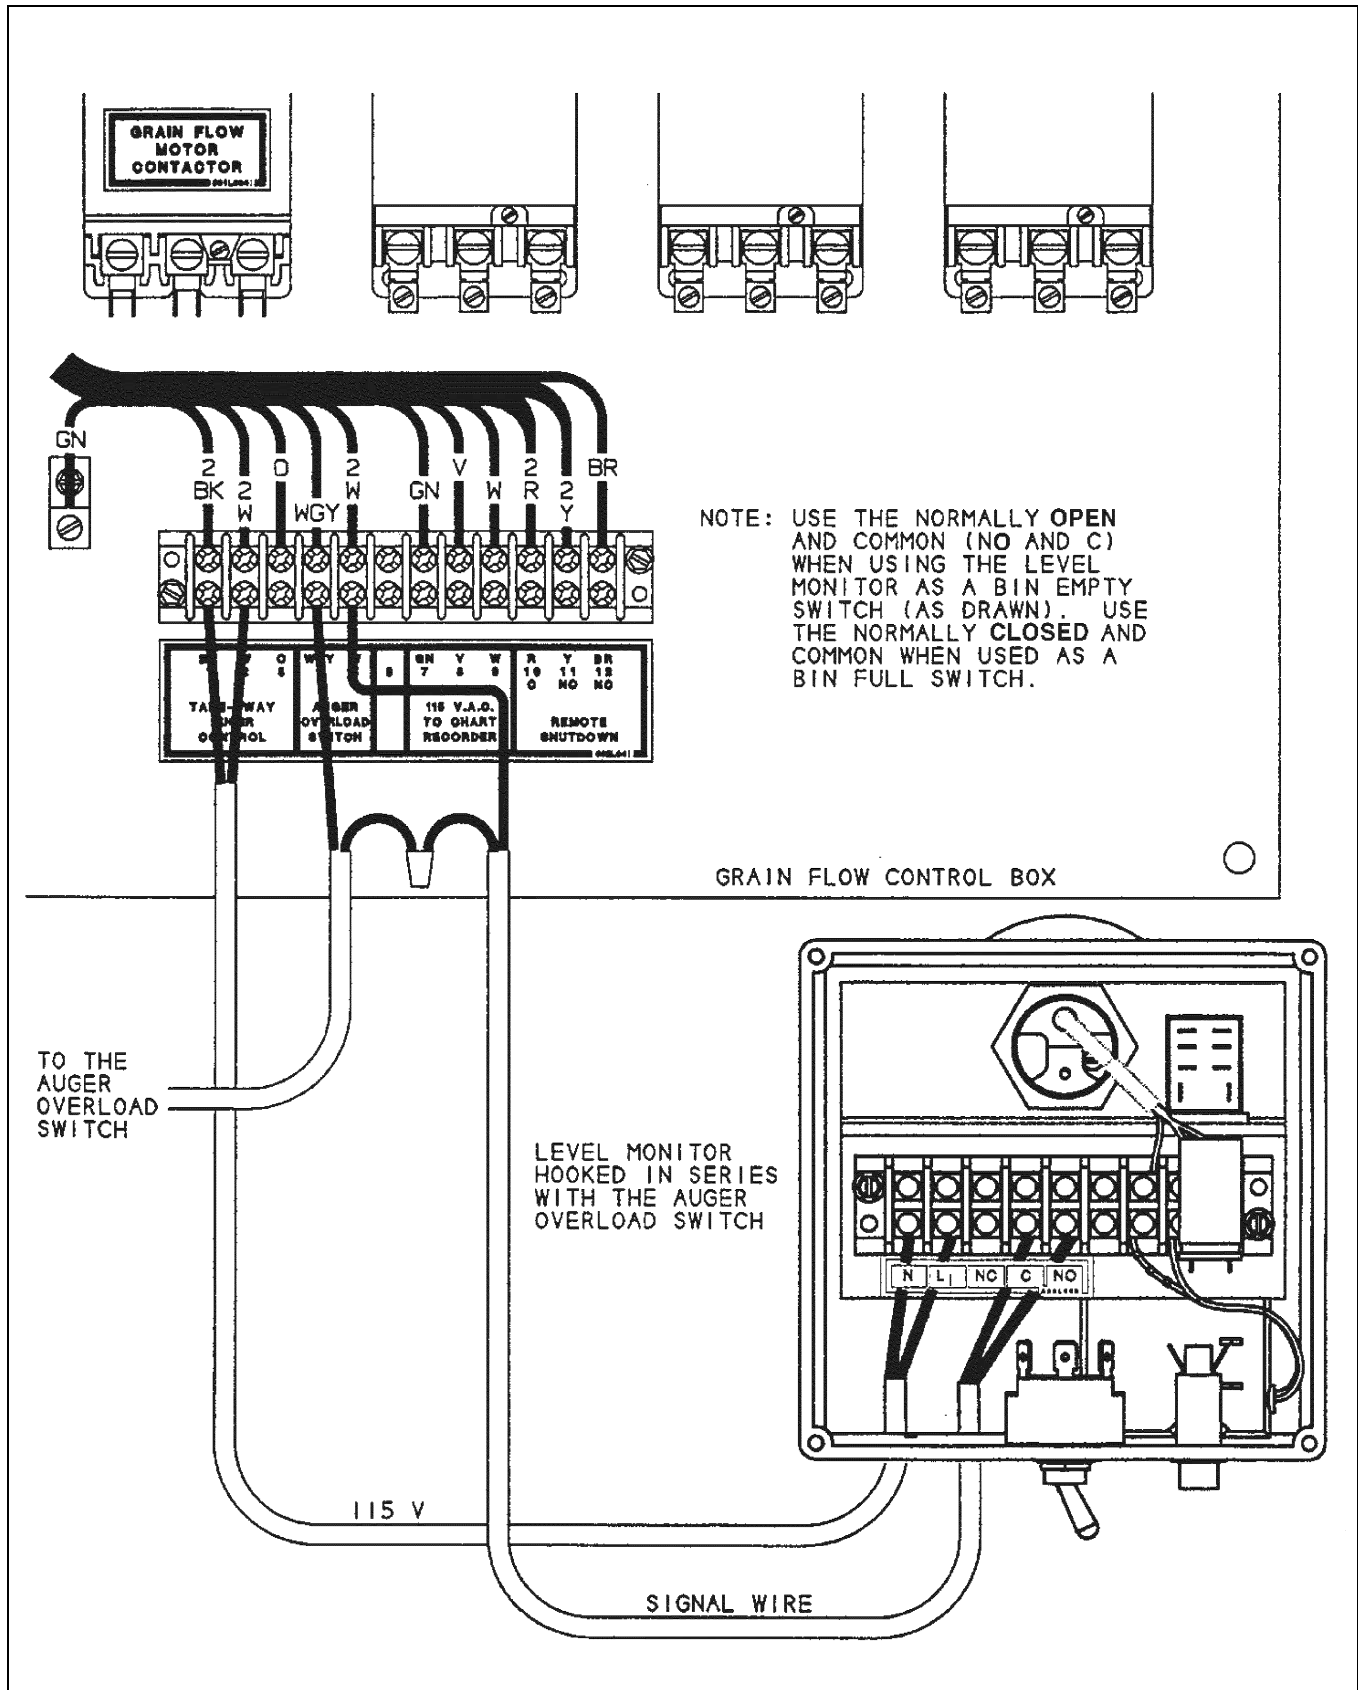

Figure 11C
1. Locate the auger overload switch terminals #4 and #5 on the terminal strip at the bottom of the Grain Flow back panel. Connect the level monitor in series with the auger overload by removing the auger overload wire from terminal #5. Use a wire nut to connect the wire from the auger overload switch to the wire attached to the “NO” terminal in the level monitor. Attach one end of another wire to the “C” terminal in the level monitor and the other end to terminal #5 in the Grain Flow. Other shut down equipment used to control the Grain Flow should be wired in series with this circuit in a similar way. *(See Figure 11C on Page 100.)*